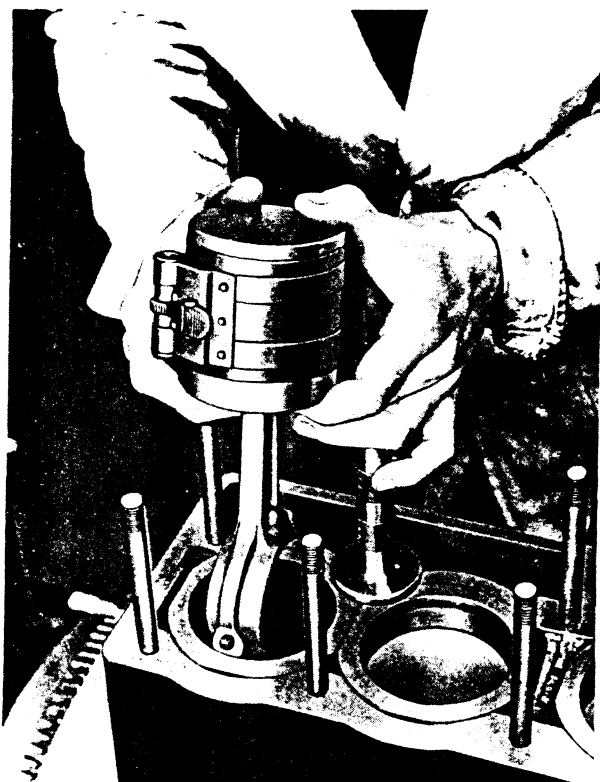

FIG. 31
2. Compress piston rings using tool shown in Fig. 31.
3. With engine in normal position, lower connecting rods into bores so that split in piston skirt is away from thrust side (i.e. towards camshaft) and the rod as shown in Fig. 31.